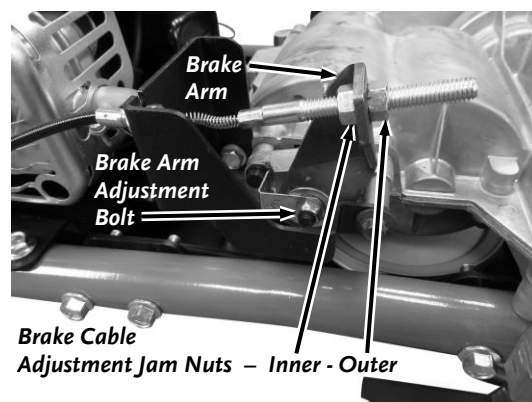

Figure 45
1. Turn the Adjustment Nut on the Brake Arm 1/4 turn clockwise with a 1/2" Wrench to tighten the Brakes (**Figure 45**).
1. Turn the inside Jam Nut a full turn away from the Brake Arm (**Figure 45**).